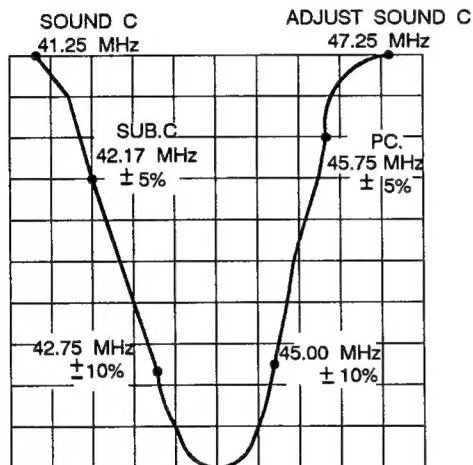

Fig.3
7. Adjust tuner converter coil to obtain the waveform as in Fig.3.